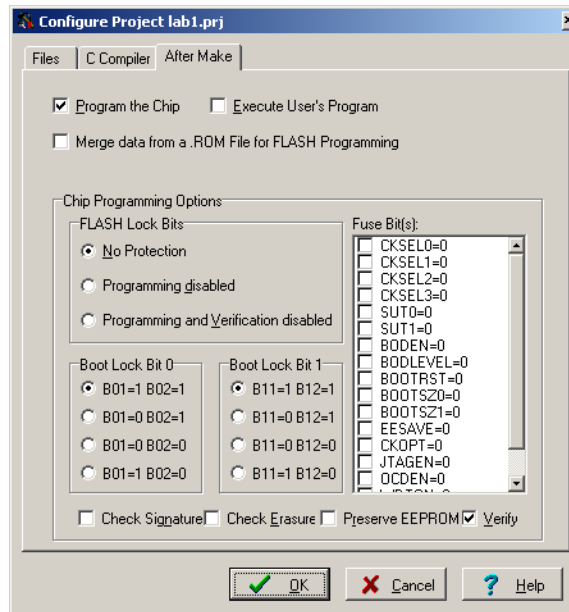

Figure 3: 'After Make' Settings
- Figure 3 shows the 'After Make' settings. You want to program the chip after make, and you don't want to verify erasure. DO NOT MESS WITH THE FUSE BITS. Your AVR board can become unusable if you write to the wrong fuse bit without knowing what you are doing.